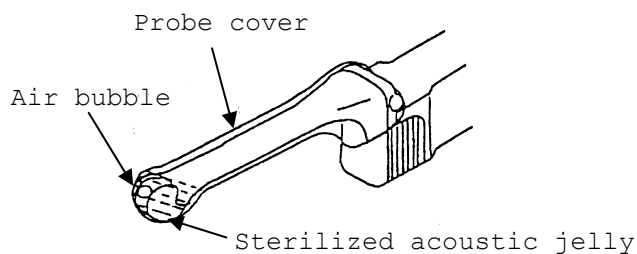
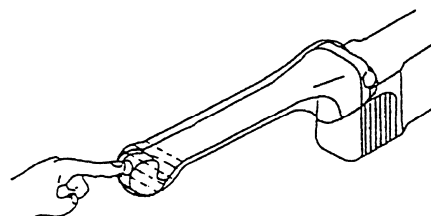

Fig.9
Fig.10
- 5) Put a probe cover on the probe and draw the probe cover until the end of the probe shaft. To avoid air bubbles, be careful to press the probe cover gently against probe head and to keep jelly on the probe head. If air bubbles appear on the probe head, remove air bubbles by pushing jelly with finger. (See Fig.9 and Fig.10.)